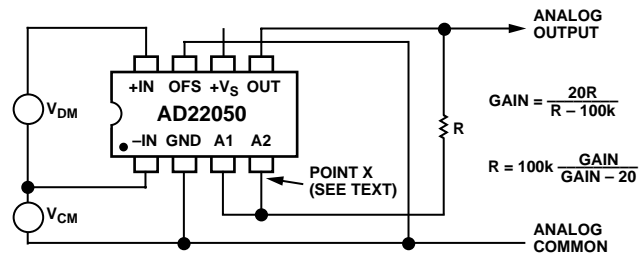
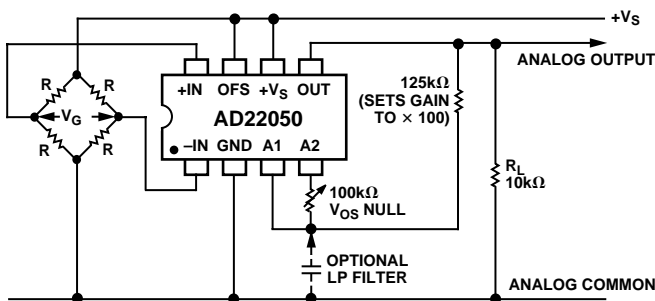

Figure 5. Achieving Gains Greater Than  $\times 20$
Figure 12. Typical Connections for a Strain Gage Interface Using the Offset Feature
**Increasing the Gain.** The gain can be raised by connecting a resistor from the output of the buffer amplifier (Pin 5) to its noninverting input (Pin 4) as shown in Figure 5. The gain is
Once again, a small offset voltage will arise from an imbalance in source resistances and the finite bias currents inherently present at the input of A2. In most applications this additional offset error (about  $130 \mu\text{V}$  at  $\times 40$ ) will be comparable with the specified offset range and will therefore introduce negligible skew. It may, however, be essentially eliminated by the addition of a resistor in series with the parallel sum of  $R$  and  $100 \text{ k}\Omega$  (i.e., at "Point X" in Figure 5) so the total series resistance is maintained at  $100 \text{ k}\Omega$ . For example, at a gain of  $\times 30$ , when  $R = 300 \text{ k}\Omega$  and the parallel sum of  $R$  and  $100 \text{ k}\Omega$  is  $75 \text{ k}\Omega$ , the padding resistor should be  $25 \text{ k}\Omega$ . A  $50 \text{ k}\Omega$  pot would provide an offset range of about  $\pm 2.25 \text{ mV}$  referred to the output, or  $\pm 75 \mu\text{V}$  referred to the attenuator input. A specific example is shown in Figure 12.
If the gain is raised using a resistor, as shown in Figure 5, the corner frequency is lowered by the same factor as the gain is raised. Thus, using a resistor of 200 k $\Omega$  (for which the gain would be doubled) the corner frequency is now 0.796 Hz- $\mu$ F, (0.039  $\mu$ F for a 20 Hz corner).
The AD22050 can be used to interface a strain gage to a subsequent process where only a single supply voltage is available. In this application, the midscale offset feature is valuable, since the output of the bridge may have either polarity. Figure 12 shows typical connections.
An ac excitation of up to  $\pm 2$  V can also be used because the common-mode range of the AD22050 extends to  $-1$  V. Assuming a full-scale bridge output ( $V_G$ ) of  $\pm 10$  mV, a gain of  $\times 100$  might be used to provide an output of  $\pm 1$  V (a full-scale range of +1.5 V to +3.5 V). This gain is achieved using the method discussed in connection with Figure 5. Note that the gain-setting resistor does not affect the accuracy of the midscale offset. (However, if the gain were lowered, using a resistor to ground, this offset would no longer be accurate.) A  $V_{OS}$  nulling pot is included for illustrative purposes. One-, two- and three-pole filtering can also be implemented, as discussed in the Low-Pass Filtering section.
A unique method of feedback around A1, provided by R9 and R7, sets the closed-loop gain of the preamplifier to  $\times 10$  (from the input pins). The feedback network is balanced by the inclusion of R6 and R8. The small value of R7 results in a more practical value for R9 (which would have to be  $2\text{ M}\Omega$  if the feedback were taken directly to the inputs of A1). R8 is not directly connected to ground, but to an optional voltage of one half that is applied to Pin 7 (OFS). It is trimmed to within close tolerances through R10 and R11. This allows the output of A1 to be offset to midscale, typically  $+V_S/2$ , by tying Pins 6 and 7 together. (For an example of the use of this feature, see Figure 12.) The gain is adjusted by the single resistor R5, which acts only on the differential signal. More importantly, it also results in much less feed forward of the common-mode signal to the output of A1, which, being a single-supply circuit, has no means of pulling this output down toward ground in those circumstances where the common-mode input is very positive while the net differential signal is small. (The output of A1 is the collector of a PNP transistor whose emitter is tied to  $+V_S$ .) R16 is specifically included to alleviate this problem.